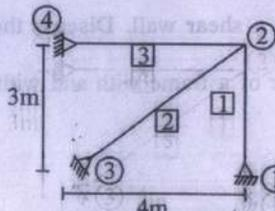

Fig. 2.
- (b) If the member 2 of framed structure shown in Figure. 2. is shortened by 0.01 m. Determine the force in members. Assume $AE = 8 \times 10^6 \text{ N}$.